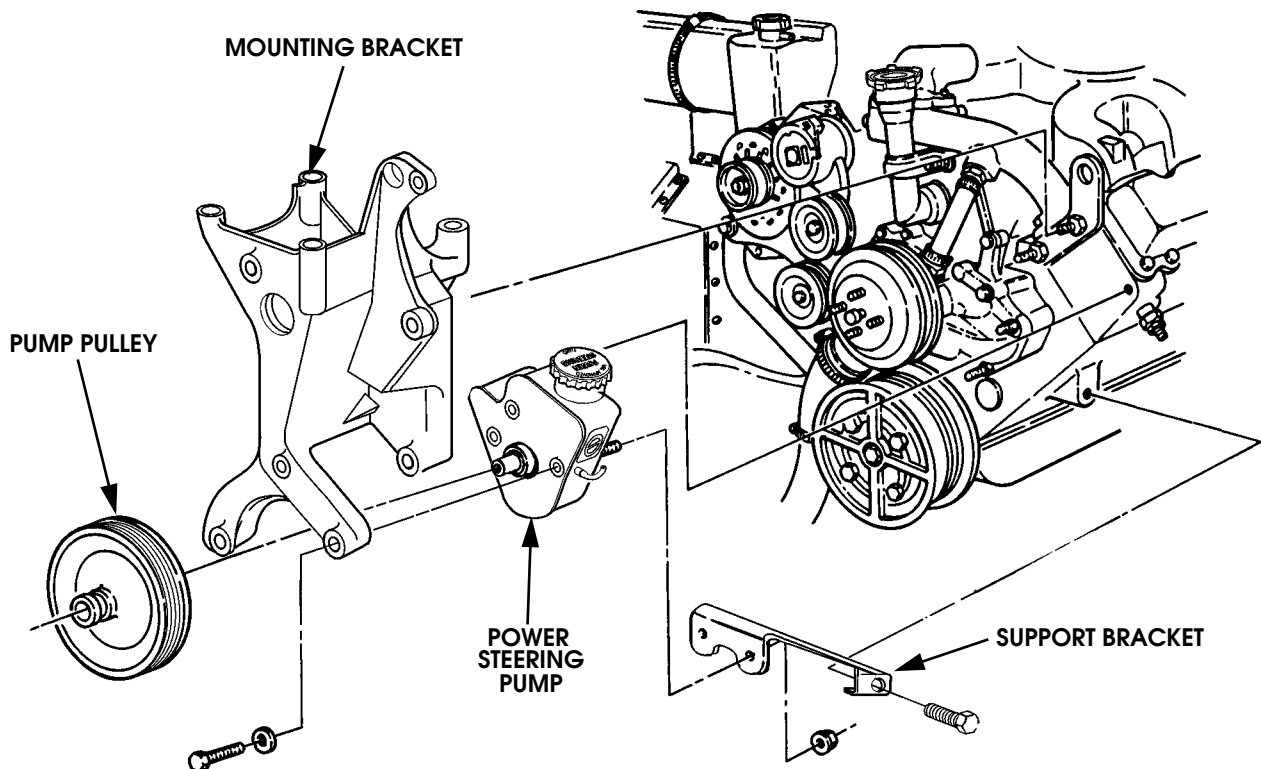

Figure 2-85: Power Steering Pump and Bracket Removal (Turbo Diesel)
2. If pump requires service, remove pump attaching bolts and remove pump from bracket (Figure 2-85).